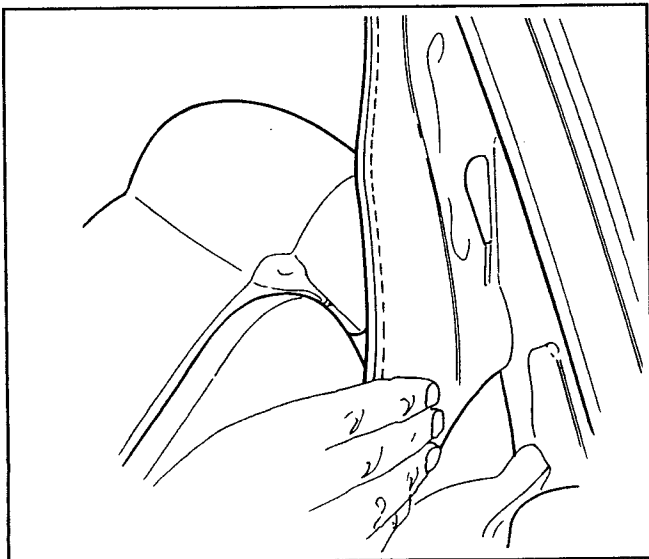

Figure 7. Release Headliner
2. Release headliner flaps and fold them inboard (Fig. 7).